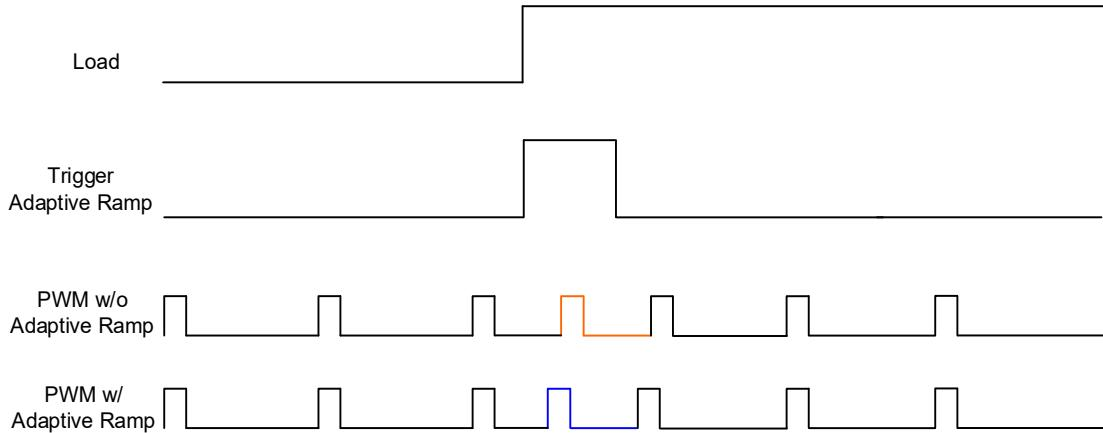
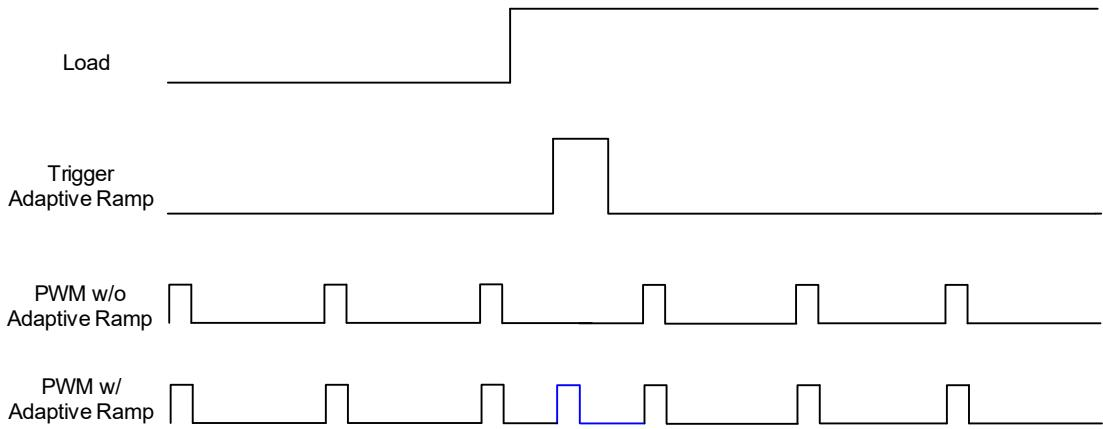

Figure 24. Adaptive Ramp Behavior in Multi-Phase Operation
Figure 25. Adaptive Ramp Behavior in Single-Phase Operation
The RT3638AE provides another function Adaptive Ramp (AR) for improving undershoot of ACLL. Two AR thresholds for multi-phase and single-phase are compared with COMPx. In multi-phase operation, when COMPx goes up and hits the threshold then triggers AR, the falling slew rate of RAMPx becomes sharper so that the next PWM is generated earlier. The operation principle is in Figure 24. In single-phase operation, when AR is triggered, an additional PWM pulse is generated directly as shown in Figure 25. Register SEL_MPH_AR_THx and SEL_1PH_AR_THx are provided for setting the threshold in multi-phase and single-phase operation. Moreover, a positive offset can be added on DAC or LPF. Refer to register 0x32 and 0x33 for detailed settings. Note, the final settings needs to be adjusted case-by-case.